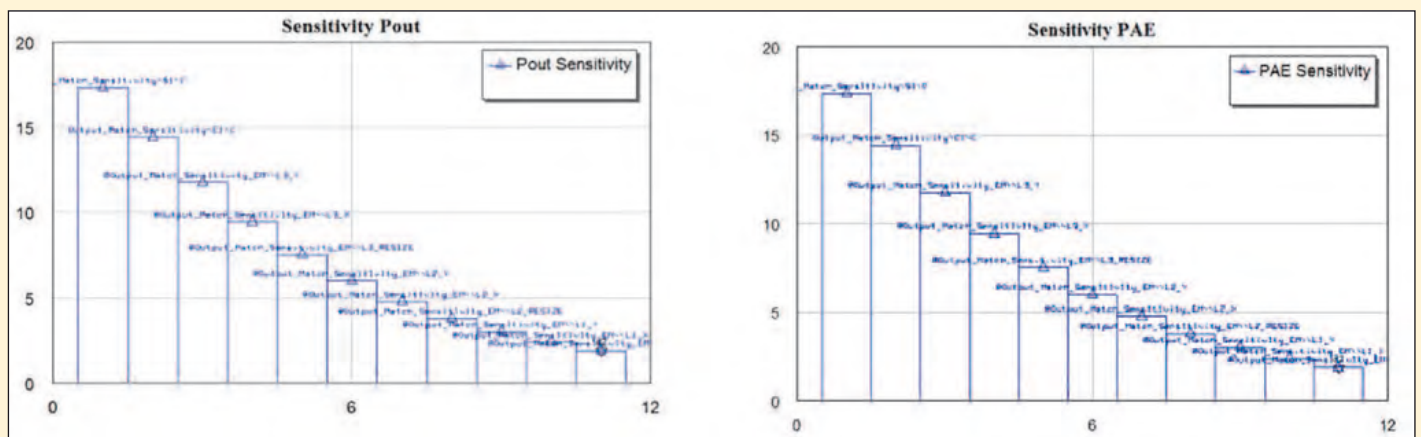
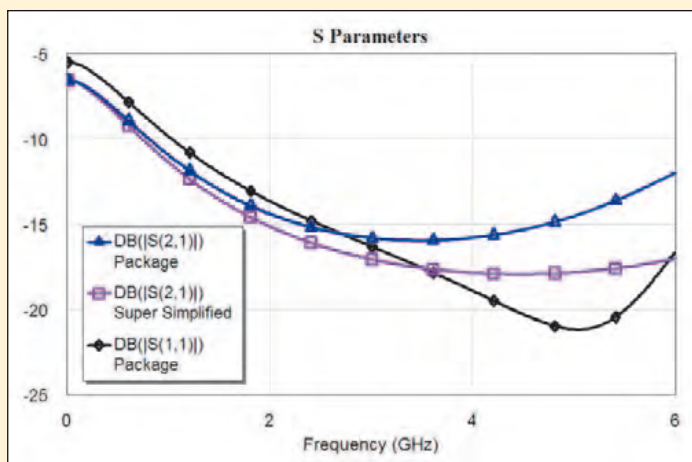
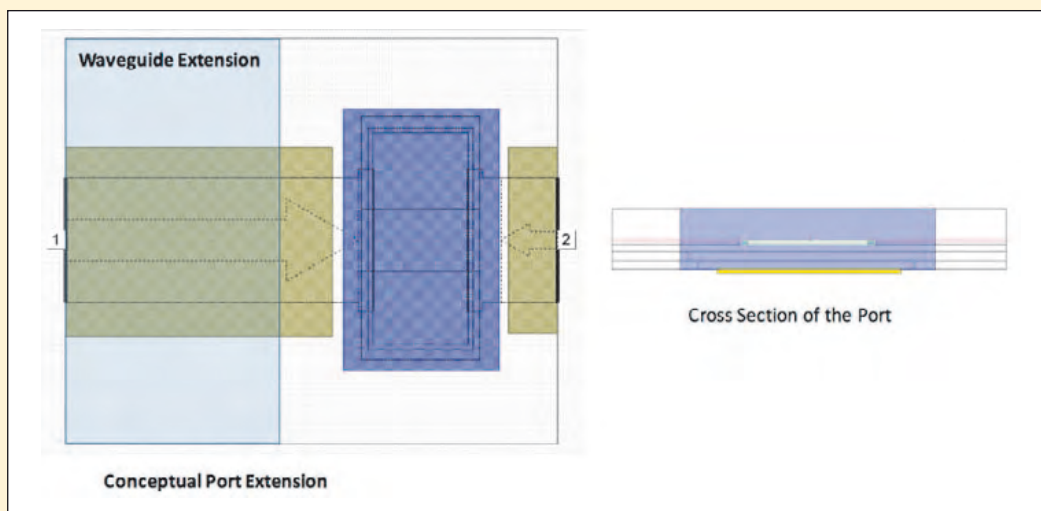
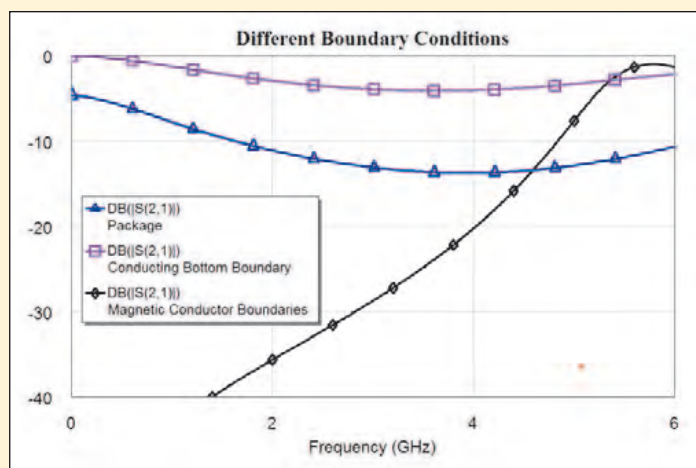

Figure 9: The sensitivity of the output power and PAE are examined over all the variables in that particular yield analysis
Figure 3: S-parameters for the structure in Figure 1. The S-parameters were not what was expected
Figure 7: The wave port can be conceptually thought of as a waveguide attached to the boundary and excited in a quasi-TEM mode
Figure 12: The magnitude of S21 is 1 (0 dB) when a ground plane is included. A perfect magnetic conducting boundary results in S11 = 1 at DC (-150 dB)
are able to do a full sensitivity or Pareto analysis. The benefit of this is that all the variables that are set up for yield are weighed against one another, enabling designers to look at which particular parameters in the yield analysis are causing the most change or degradation of particular performance metrics. For example, in Fig. 9 the sensitivity of the output power and PAE are being examined over all the variables in that particular yield analysis, and those variables are going to be different for each performance metric.
The customer's concern was the unexpected S-parameters produced by Analyst, shown in Figure 3. It would be expected that S21 would look like a through line, as the signal path basically went from one port to the other. The magnitude of S21 in dB is the blue curve. Rather than being about 0 dB over DC to 6 GHz, as expected, it was down at about 6.6 dB at DC, and got worse with increasing frequency. The customer had left a number of series capacitors in the circuit and so had a harder time seeing the issue, as S21 will go to 0 at DC in that case. Once again, when in doubt, simplify. The magnitude of S21 for the simpler structure shown in Figure 2 is also graphed in Figure 3 as the pink trace called Super Simplified. Notice it has
A wave port is a type of port in Analyst in which a conducting line attaches to a simulation boundary and a port is attached. (As a technical note, the user must go in and explicitly change the port type to a wave port; the default type of port is a lumped port). Think of a wave port as the numerical version of a waveguide that is attached to the boundary, with the same cross-sectional geometry as the circuit. For example, looking at Port 1 in Figure 1, imagine the cross-sectional geometry of conductors and dielectrics extending backwards unchanged for a very long distance, which is shown in Figure 7. The port is excited by injecting power into the waveguide mode. Analyst then determines how much is reflected back to the port and
transmitted to other ports, thereby obtaining the S-parameters. The de-embedding arrow coming out of Port 1 in Figure 7 will be explained in a moment.
is the entire basis of any circuit simulator. Without quasi-TEM modes, it isn't possible to talk about current and voltage laws very well. (It should be noted that it is possible to study non-TEM modes in Analyst, but only through the standalone 3D editor. A separate license for Analyst MP is also needed.) How many quasi-TEM modes does Analyst need to calculate? It depends on the port's geometry, in particular the number of conductors. If the number of conductors in the port are taken and one is subtracted, the result is the number of quasi-TEM modes that are supported by the geometry. For the port under discussion, the cross section of Port 1, shown on the right side of Figure 7, has metal conductors at the signal line labelled (1) and the metal plate at the bottom of the dielectric. The boundary conditions around the edge of the port are all approximate open. Consequently, the total number of conductors is two and one quasi-TEM mode is supported. Analyst should have no trouble finding the right mode for this problem.
It is a good practice to look at two measurements when trying to decide if a wave port is behaving correctly. First, examine the modal impedance, Z_{in} , as shown in Figure 9. This measurement resides under the measurement category, Electromagnetic, and is called Z_{in} Port. It calculates the
The modal impedance is a complex number, so both the real and imaginary parts have been plotted on a rectangular graph. The graph in Figure 9 shows the modal impedance for Port 1 of the geometry shown in Figure 7. The results shown in Figure 9 are good for two reasons. First, the imaginary part of the modal impedance is zero. For a TEM mode, with no lossy materials for either the conductors or dielectrics, it should be identically zero. For quasi-TEM modes, it should be a small num-
Figure 9: The modal impedance is the same for the two different geometries shown in Figures 7 and 8. The Super Simplified is for the original structure, shown on the left in Figure 8. The Three Pieces Metal Boundary is the modified project, which is shown in the right picture of Figure 8
get an answer. This is an indication that Analyst is having difficulty deciding on the right TEM mode. Again, the problem is that the port solver does not know that the side metal is grounded. The final answer does have a port impedance that agrees with the simpler one line case, as shown in Figure 9.
Analyst users are sometimes confused by the port impedances of the S-parameters generated. S-parameters created by Analyst are automatically renormalized to 50 ohms. A wave impedance of 54 ohms at Port 1 is shown in Figure 9. But this is not the normalization of the S-parameters that are shown in Figure 3. If the normalization of the S-parameters needs to be changed, place the S-parameter data in a schematic as a sub-circuit, attach ports, and then change their port impedances to the desired values, for example 75 ohms. When the S-parameters are plotted using the schematic as the data source, they will be normalized to the new port impedance values. This is also true of a Smith chart, where the normalization of the chart is the same as the port that is being measured. So, for example, the Smith chart will show S_{11} normalized to 75 ohms if Port 1 is 75 ohms in the schematic.
the only way for the current to return. The boundary looked like a sheet resistance, which increased the equivalent load impedance that Port 1 sees. Thinking back to Figure 3, the return loss was about 6.6 dB at low frequency because the approximate open boundary condition giving a atypical, lossy connection between the two ports. How is the hypothesis checked? First, change the boundary condition on the bottom boundary to a perfect conductor. (If wanted, it could be set to a good conductor, like copper, which will return the same answer.) Figure 12 shows the result. The curve labeled Conducting Bottom Boundary shows the results when the bottom boundary is made a perfect electric conductor. The magnitude of S21 is 1 (0 dB) at DC, as expected. There is now a complete conducting path for the current. Changing the boundaries to perfect opens or perfect magnetic conductors was also tried. As seen in Figure 12, the magnetic conductor boundaries curve shows the S21 is 0 at DC (negative infinity dB). The wave is completely reflected.